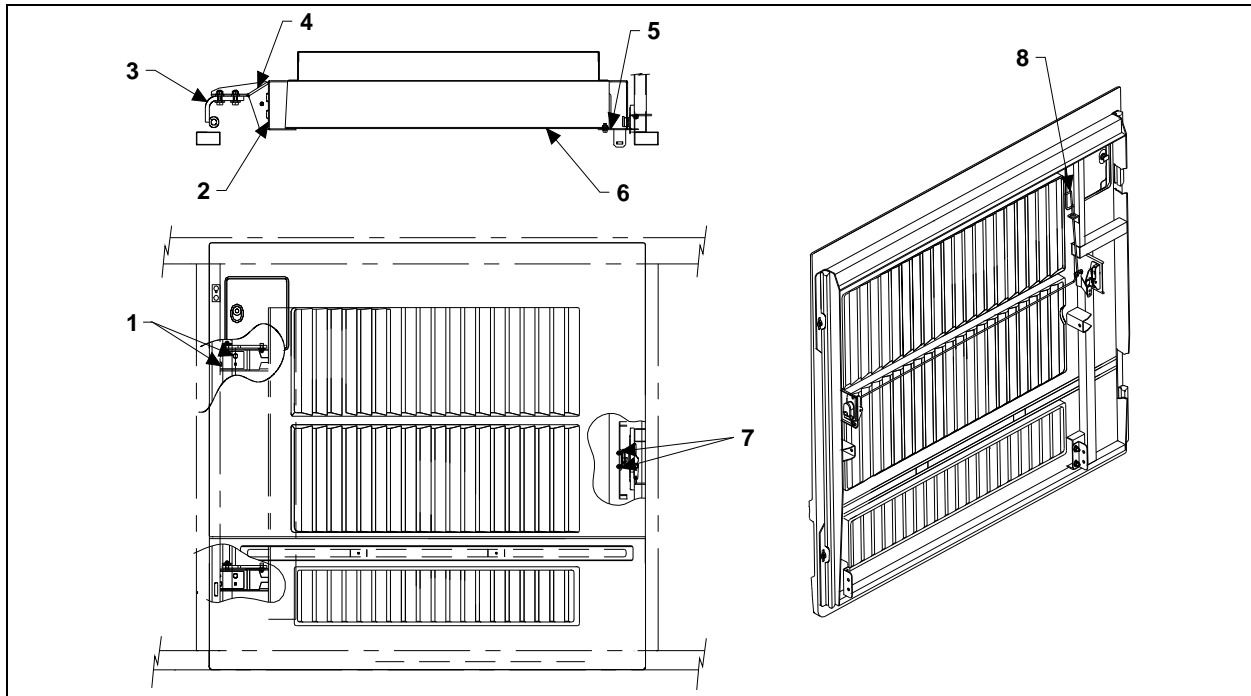

FIGURE 69: CONDENSER DOOR
2. Loosen the nuts (1, Figure 69) holding the hinge (3, Figure 69) to hinge attachment (4, Figure 69). Loosening nuts (1, Figure 69) allows the condenser assembly to be shifted "LEFT or RIGHT" and "UP or DOWN".
5. Loosen bracket nuts holding the panel to condenser. Panel (6, Figure 69) may be shifted "IN or OUT", "LEFT or RIGHT" and "UP or DOWN".
6. Adjust condenser panel at brackets (2, Figure 69) and (5, Figure 69).